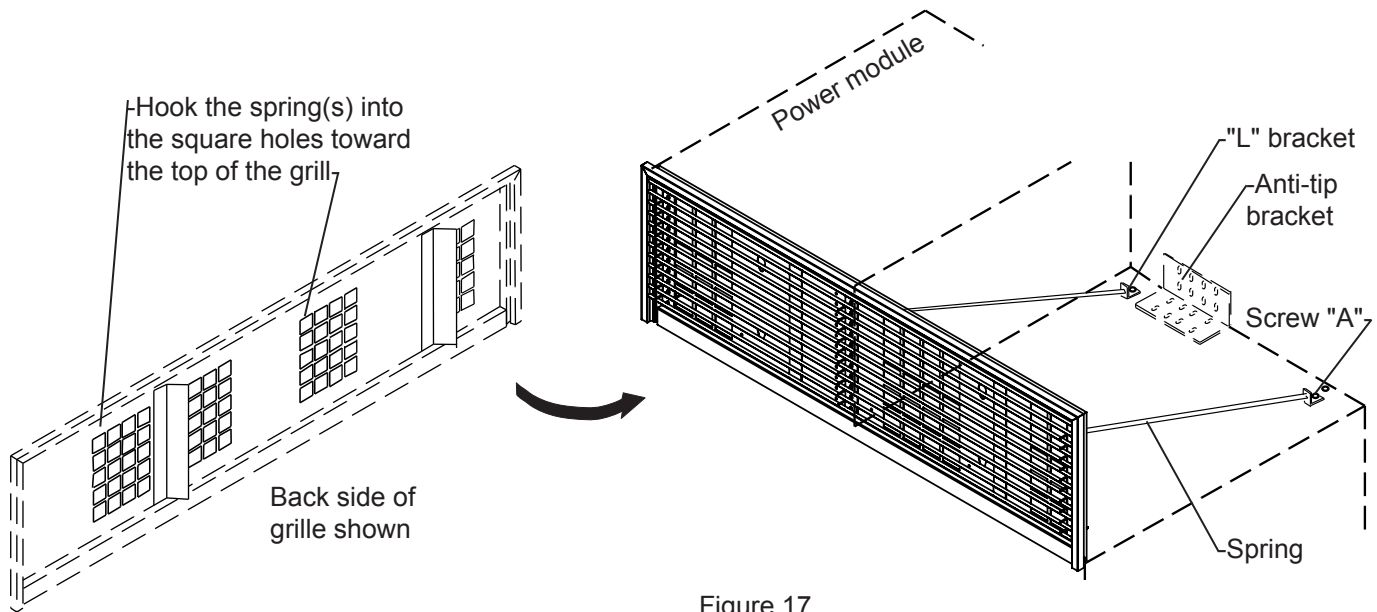

Figure 17
1. Remove screw A in mounting bracket. Mount L-bracket with screw A. See Figure 17.